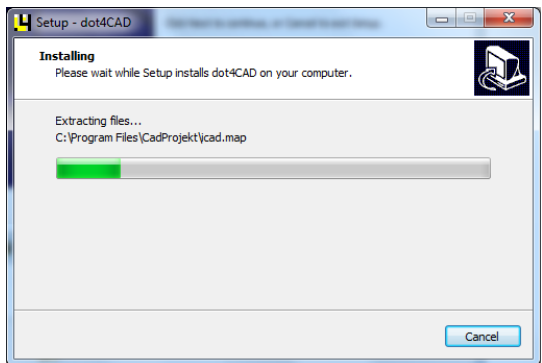

Fig. 40 – installation progress
- The time left to complete the installation can be viewed on the progress bar (Fig. 40);